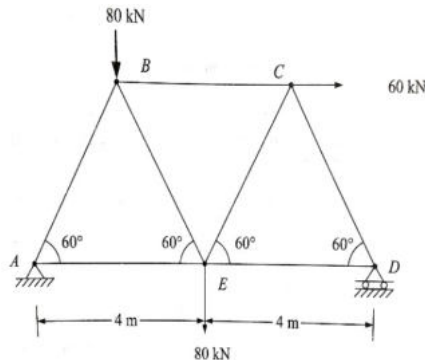

Figure 5.
6. Analyze the truss shown in figure 5, by the method of tension coefficient and determine the forces in all the members. [14M]